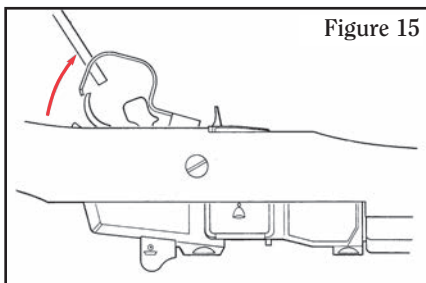

Figure 15
3. Invert the rifle and use a 1/4" diameter steel rod, punch, screwdriver shank, or other suitable instrument inserted into the hole in the rear of the trigger guard as a lever to spring open the trigger guard from its latched position. (See Figure 15.)